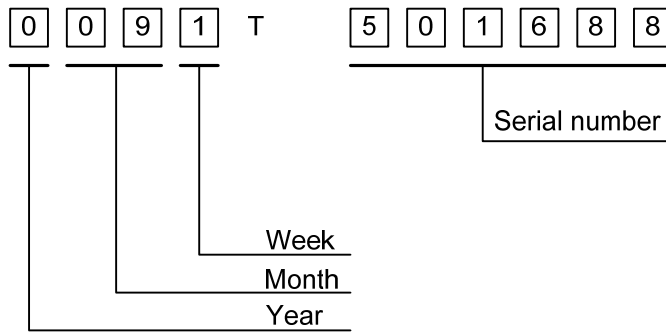

Fig. 14.1
1) The lot mark is showing in Fig.14.1. First 4 digits are used to represent production lot, and the last 6 digits are the serial number.